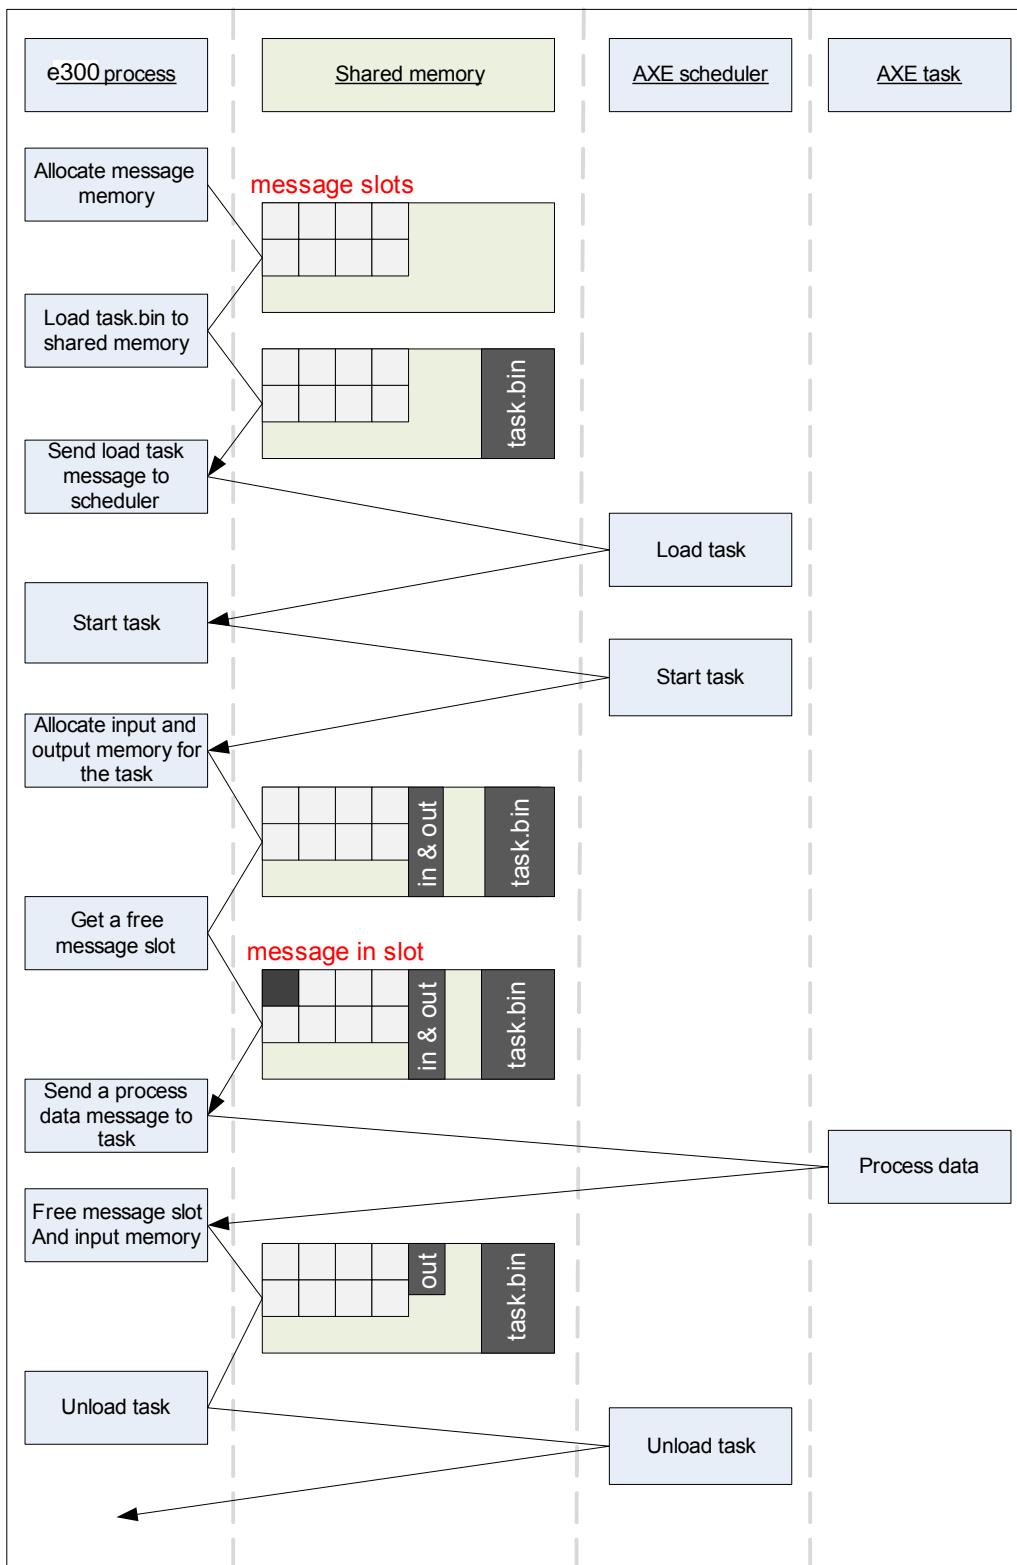

Figure 10.
**Figure 10** shows a typical inter-processor communication flow chart of a task's lifecycle: